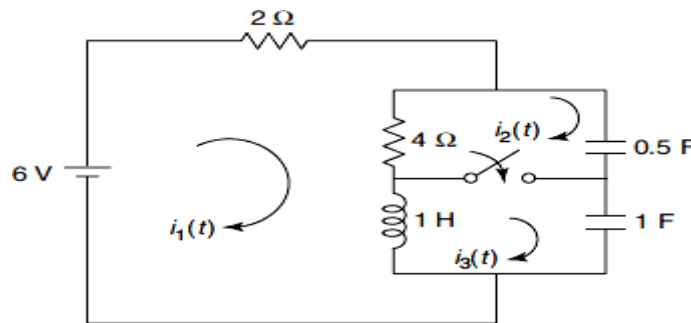

Figure:2
- b) For the following network shown in figure2, a steady state is reached with switch open. At $t = 0$, switch is closed. Find the three loop currents at $t = 0^+$. [6+9]